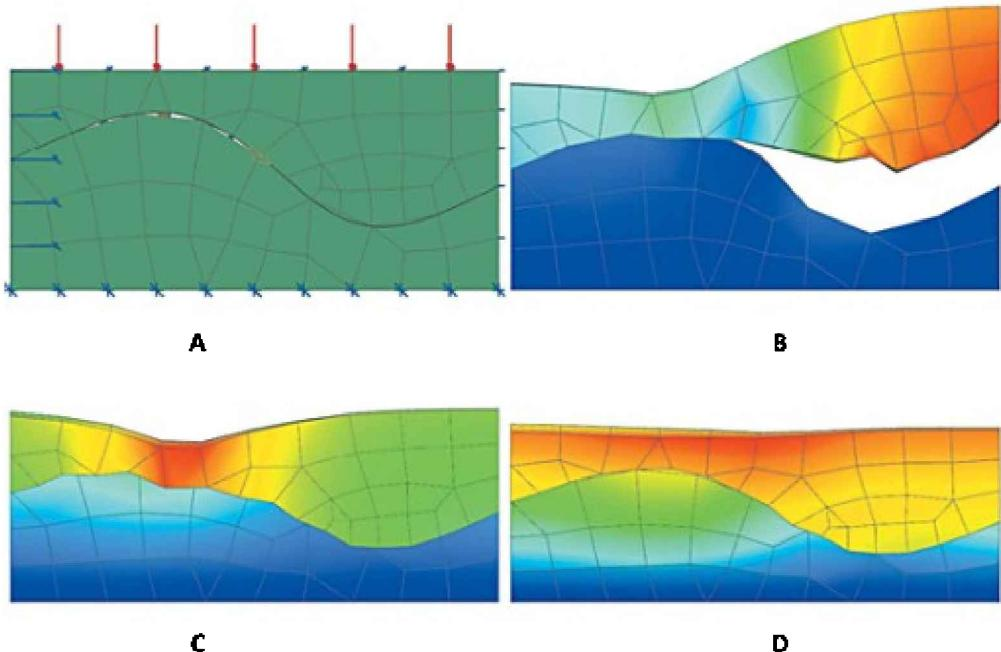

Figure 1.15. Initial penetration and gaps options
- In the *Initial Penetration/gap (INIPENE)* box, you can set up the initial state of the contact surfaces. This parameter is useful when the contact surfaces are curvilinear, and after finite-element approximation of geometry, the results do not lie exactly on the surface (Figure 1.15, A). This in turn can lead to locally increased contact pressure instead of uniform smooth distribution. The following options are possible:
- a. *Calculate from geometry* is the default option: all gaps and penetrations are accounted for using coordinates of finite element nodes (Figure 1.15, B). This option is convenient for modeling contact interaction with pretensioning where penetration of one body with the other is intentionally defined.
- b. *Ignore penetration/Use gaps*: any penetration is treated as touching, that is, no additional stiffness penalty functions are introduced for these areas (Figure 1.15, C).